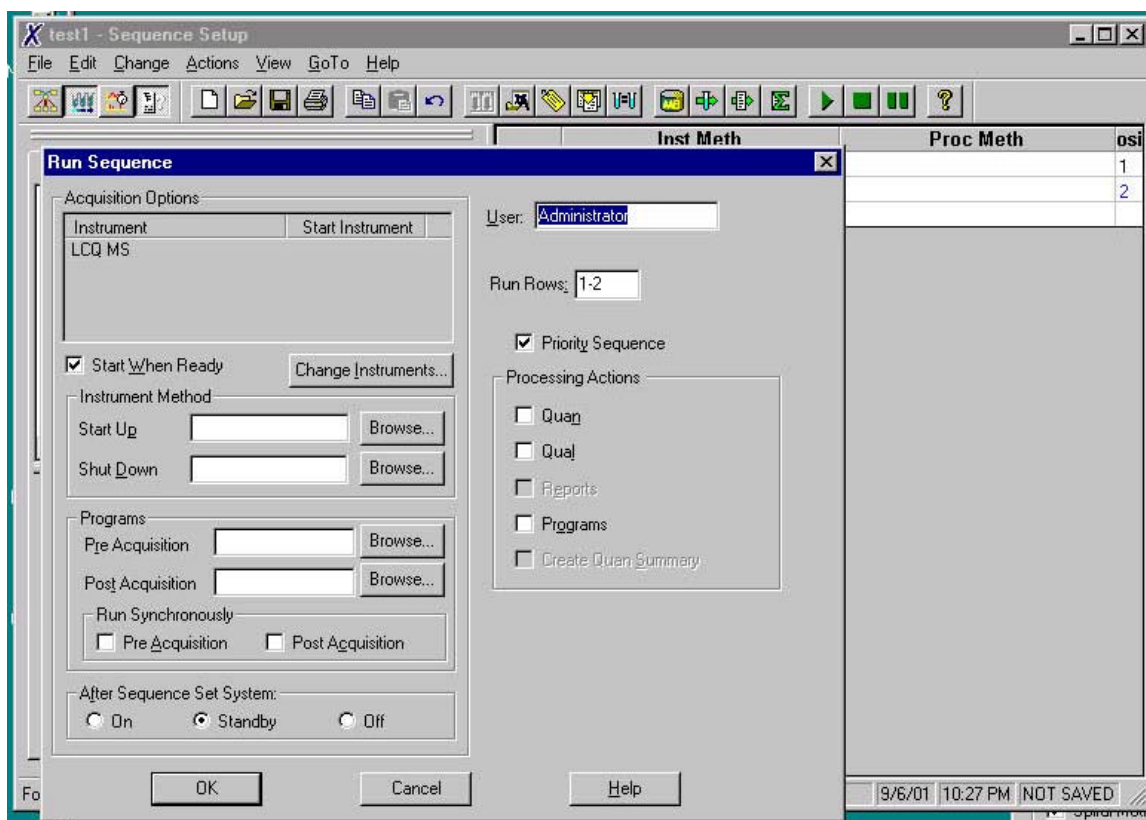

Fig. 36
7. Go to the *Actions/Run Sequence* menu to open the Run Sequence window (see Fig. 36 below).